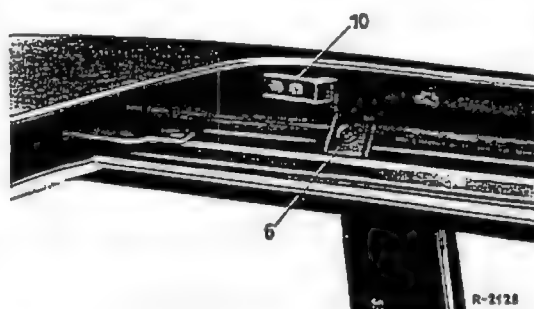

Fig. 78-1/5
The lateral plastic wedges (10) which press the sliding roof forward when it is closed are situated too far forward (Fig. 78-1/5).